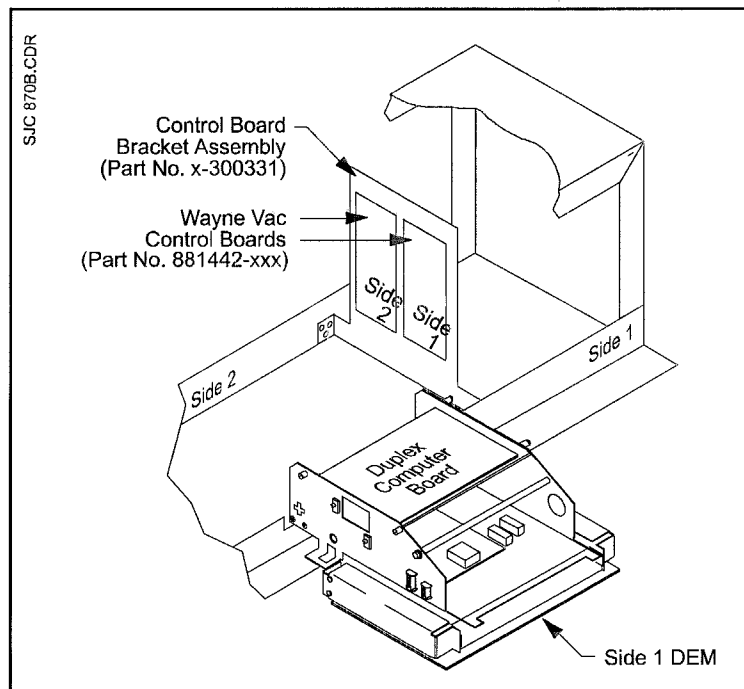

Figure 2-2 Wayne Vac Control Board Bracket Assembly
2. Locate the Control Board Bracket Assembly (Part No. x-300331) installed inside the electronic head. Refer to Figure 2-2 for location.
Refer to Figure 2-2 when performing steps 1 through 3.